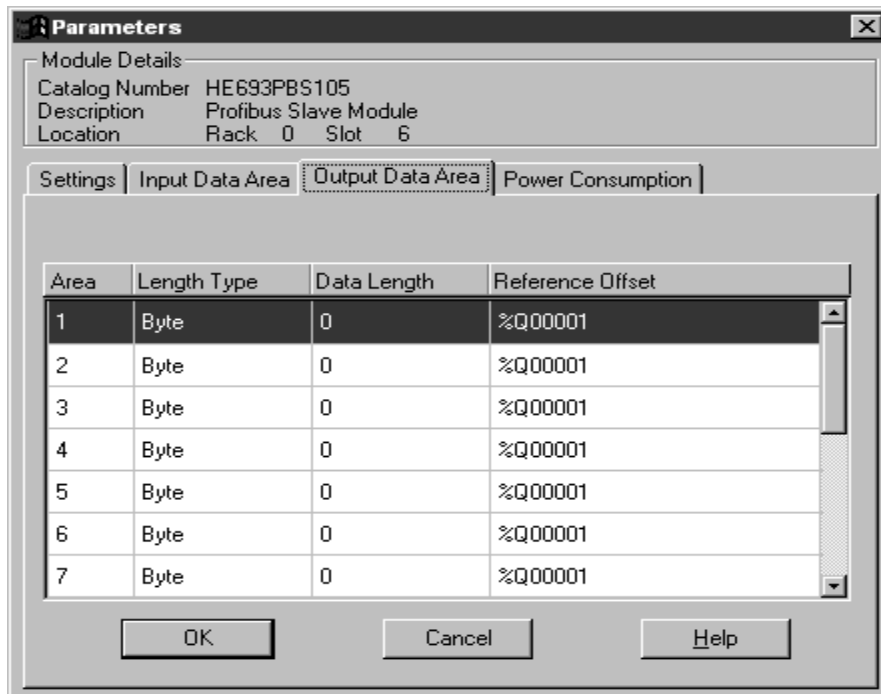

Figure 2.5
Step 9: After the above parameters are set, click on the "Output Data Area" tab. The following Screen should appear (**Figure 2-5**).